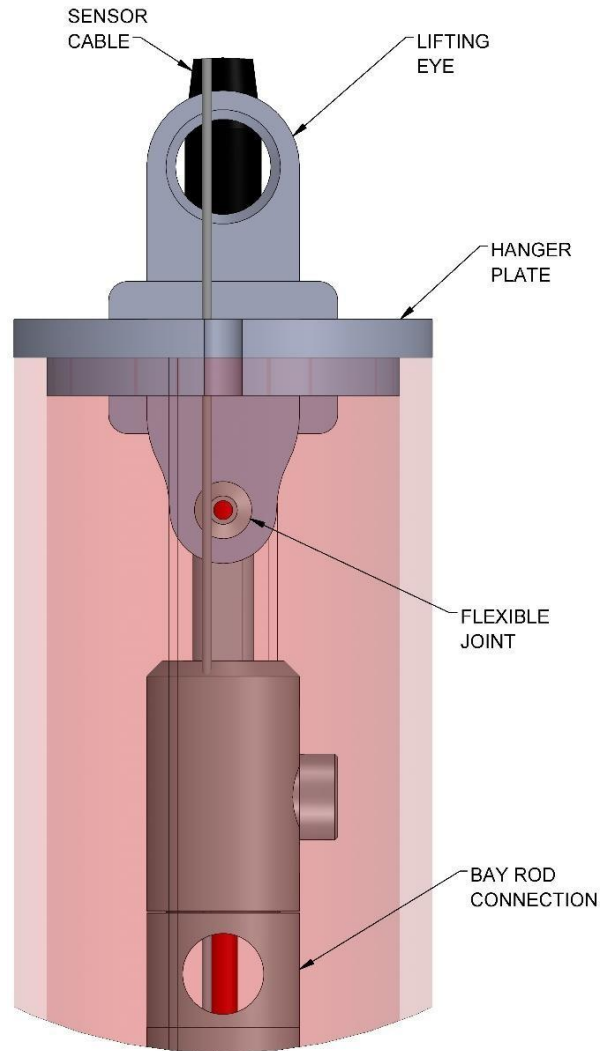

Figure 3: Collar Hanger Secured to Top Sensor
2. Secure the collar hanger to the top sensor (see Figure 3). Loosen the shoulder bolt at the top of the IPI sensor and slide the sensor into the collar hanger, aligning the shoulder bolt in the j-slot. Twist the sensor counterclockwise into the seat of the j-slot and tighten the bolt.
8. Secure the hanger plate to the top sensor (see Figure 3). Loosen the shoulder bolt at the top of the IPI sensor and slide the sensor into the collar hanger, aligning the shoulder bolt in the j-slot. Twist the sensor counterclockwise into the seat of the j-slot and tighten the bolt. Insert into the casing until the hanger plate sockets inside the top of the casing.